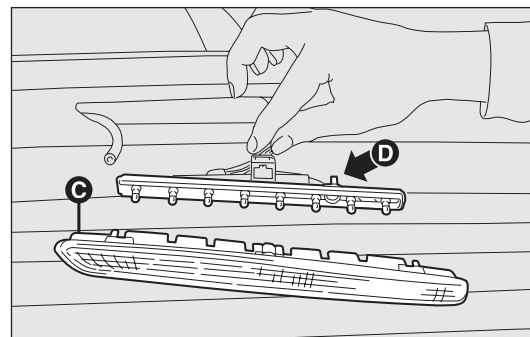

fig. 172
THIRD BRAKE LIGHT fig. 172
- ☐ press in the catches and remove the lens unit C-fig. 172;
- ☐ press in the tabs D-fig. 172 and remove the bulb holder;